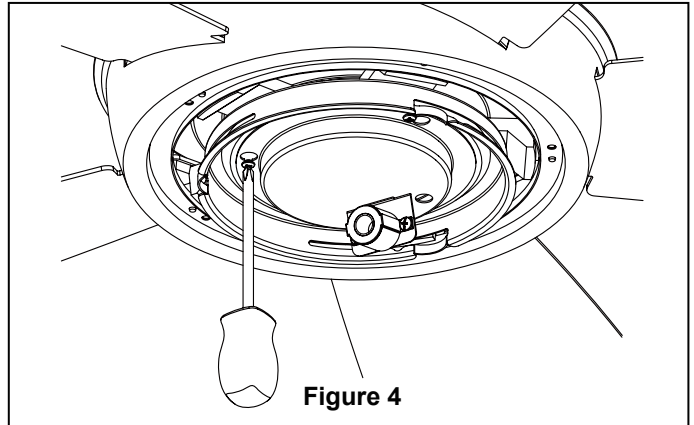

Figure 4
4. Securely attach Downlight Socket Plate Assembly to the Adapter Plate by tightening three screws provided with the fan. (Figure 4)